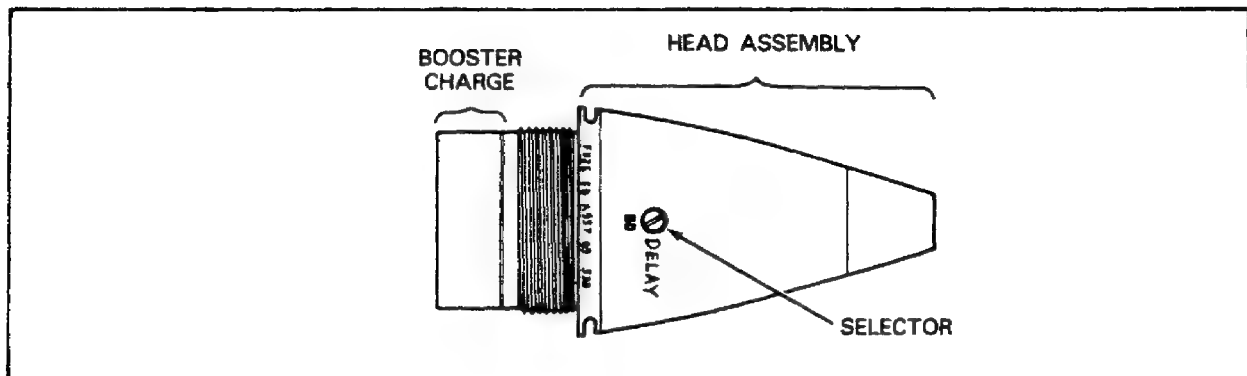

Figure 65. Artillery PD Fuze.
**Point-Detonating Fuzes.** The fuze illustrated in Figure 65 is a typical point-detonating (PD) fuze used with artillery ammunition. Note that the markings are engraved at the base of the head assembly with the type of fuze and the model number. Below the head assembly is a booster assembly.